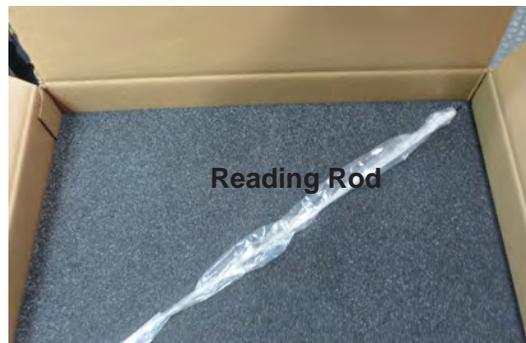

Figure IS-01, Top Foam Layer
3. Remove the Reading Rod. (Please refer to Figure IS-01.)